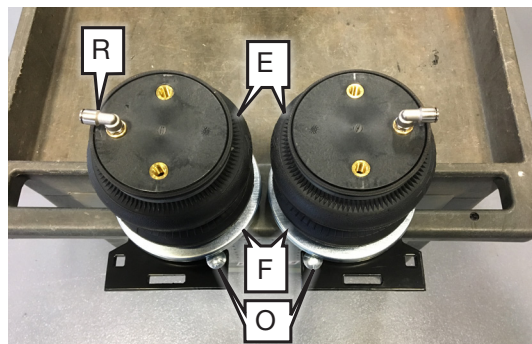

Fig. 14
- Install the 90-degree swivel elbow fitting (R) into the top of each air spring finger-tight. Tighten the swivel fittings an additional one and a half turns (Fig. 14).